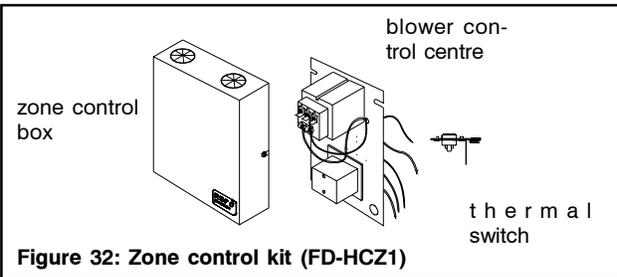

Figure 32: Zone control kit (FD-HCZ1)
- (figure 32) - 1 blower transformer relay